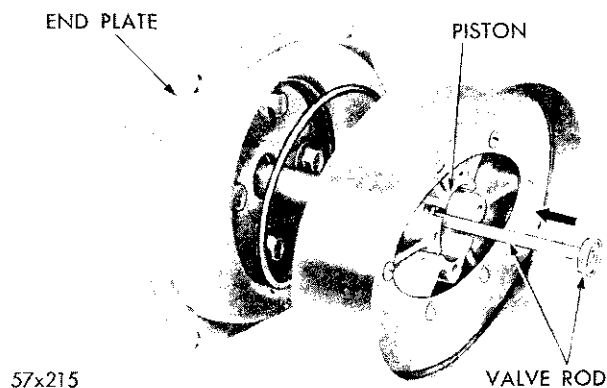

Fig. 68—Installing the Valve Rod
(11) Slide the valve rod through the center of the piston and piston rod until the end of rod protrudes, as shown in Figure 68. Slide the valve rod spring and retainer washer over the end of the rod.